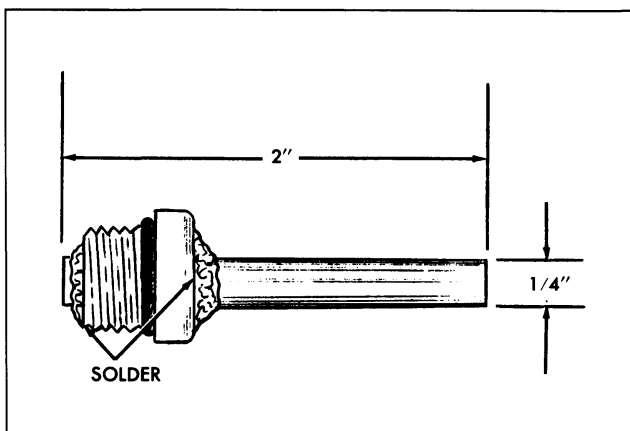

Fig. 21-57 Filler Plug Adapter
2. Install 2" length of metal tubing (1/4" O.D. x 3/16" I.D.) into center of filler plug and solder tubing on both sides of filler plug to form air tight connection (Fig. 21-57).